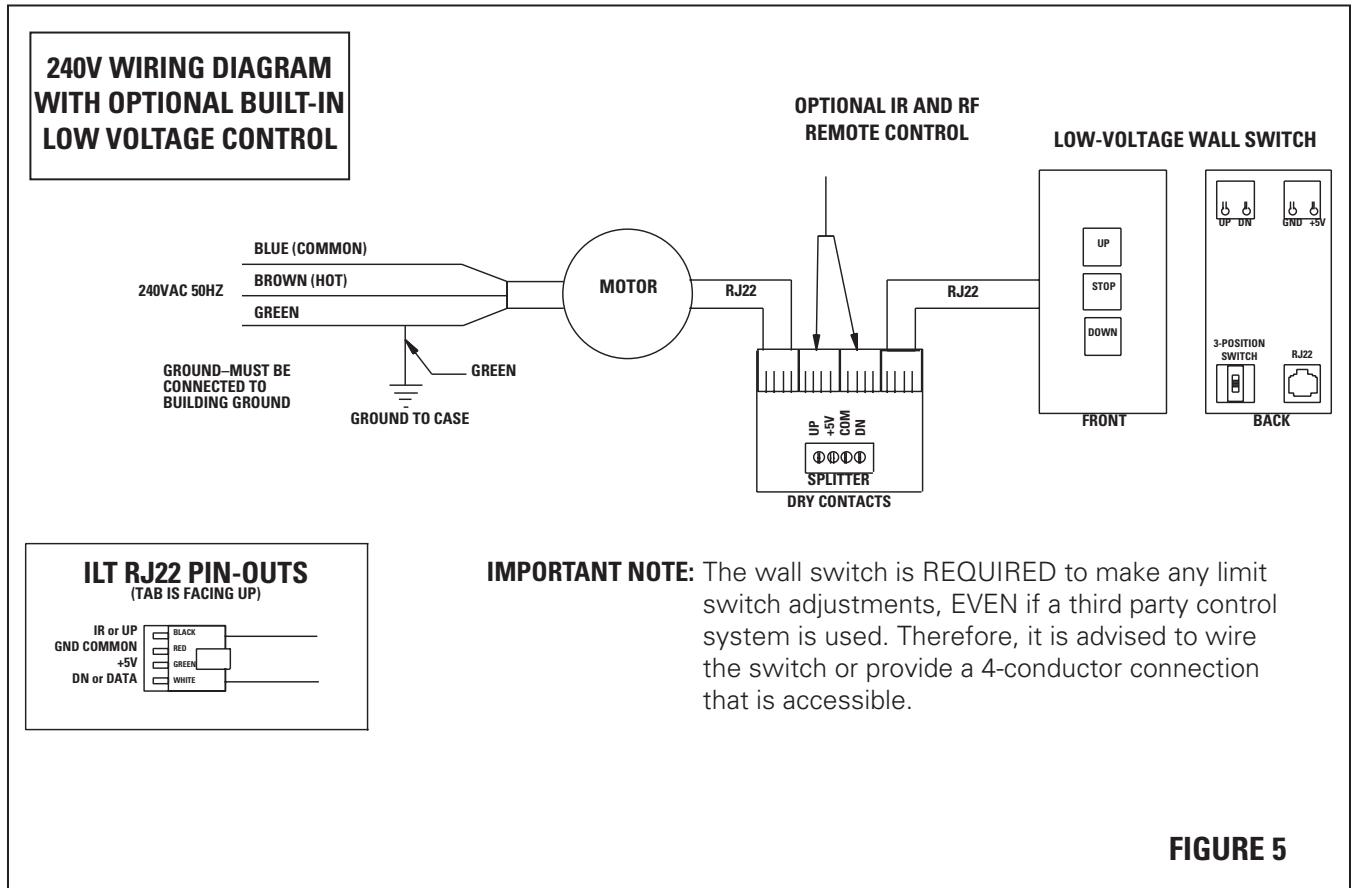

FIGURE 5
2. Locate small 3-position switch on back of wall switch. See Figure 4 for 120V screens or Figure 5 for 220/240V screens.